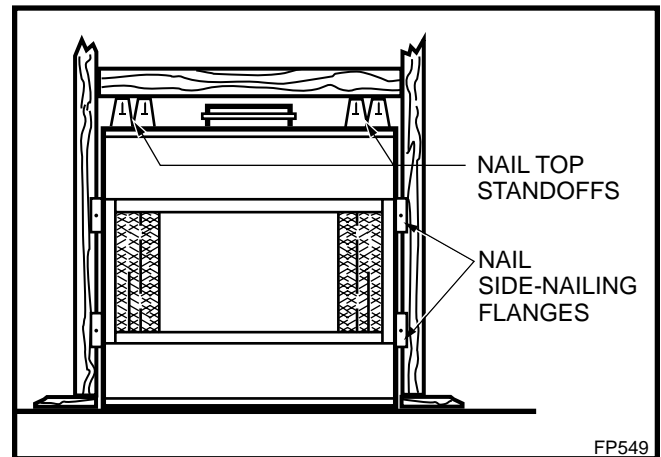

Fig. 15 Fasten fireplace in position.
Four (4) nailing flanges are supplied with the fireplace (found on the fireplace hearth). To level the box and secure it firmly in place, remove the nailing flanges from the hearth and install at the sides of the fireplace as shown in Figure 15.